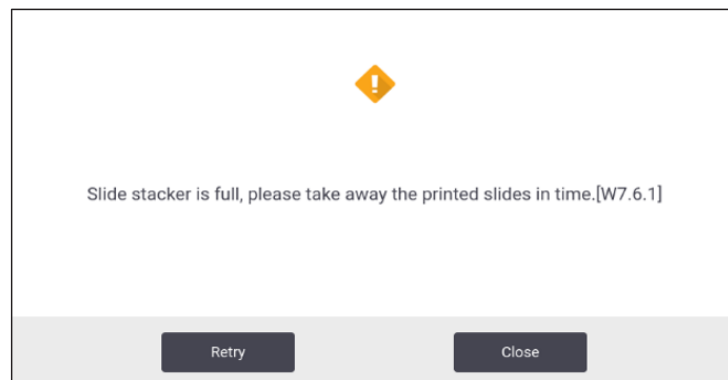

Fig. 54
- Under batch printing, each file is viewed as a separate task even there is only one slide required in the task. If there are eight such tasks, each stack of the slide stacker will be occupied by a slide. After the eight tasks are finished, a window (→ Fig. 54) pops up and reminds the user to move the slides on the slide stacker. To save the slide stacker space, **Pack tasks** is provided.